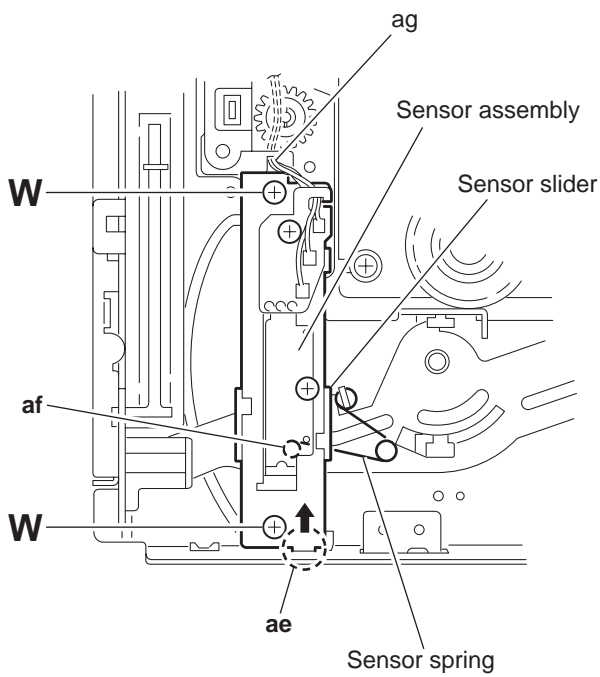

Fig.35
- (2) Remove the two screws **W** attaching the sensor assembly. (See Figs.35 and 38.)
- (3) Move the sensor assembly in the direction of the arrow to release from the joint section **ae**. (See Figs.35 and 38.)
- (4) Remove the sensor spring attached to the bottom of the sensor assembly from the boss af on the sensor slider. (See Figs.35 and 36.)
- Let the wire extending from the sensor assembly through notch ag to the bottom of the DVD changer mechanism assembly. (See Figs.35 and 38.)
- Joint section **ae** of the sensor assembly to the notch am of the DVD changer mechanism assembly. (See Figs.35 and 38.)